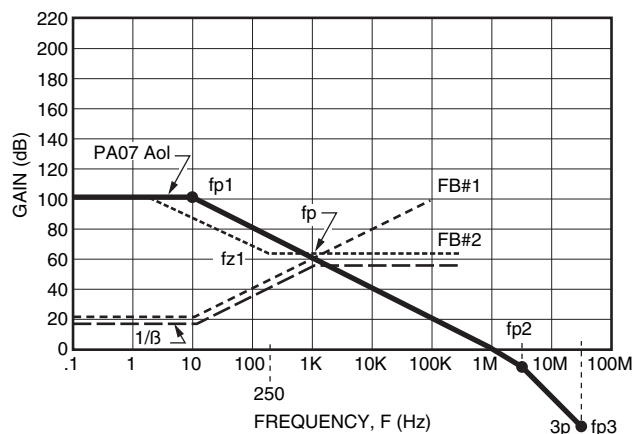
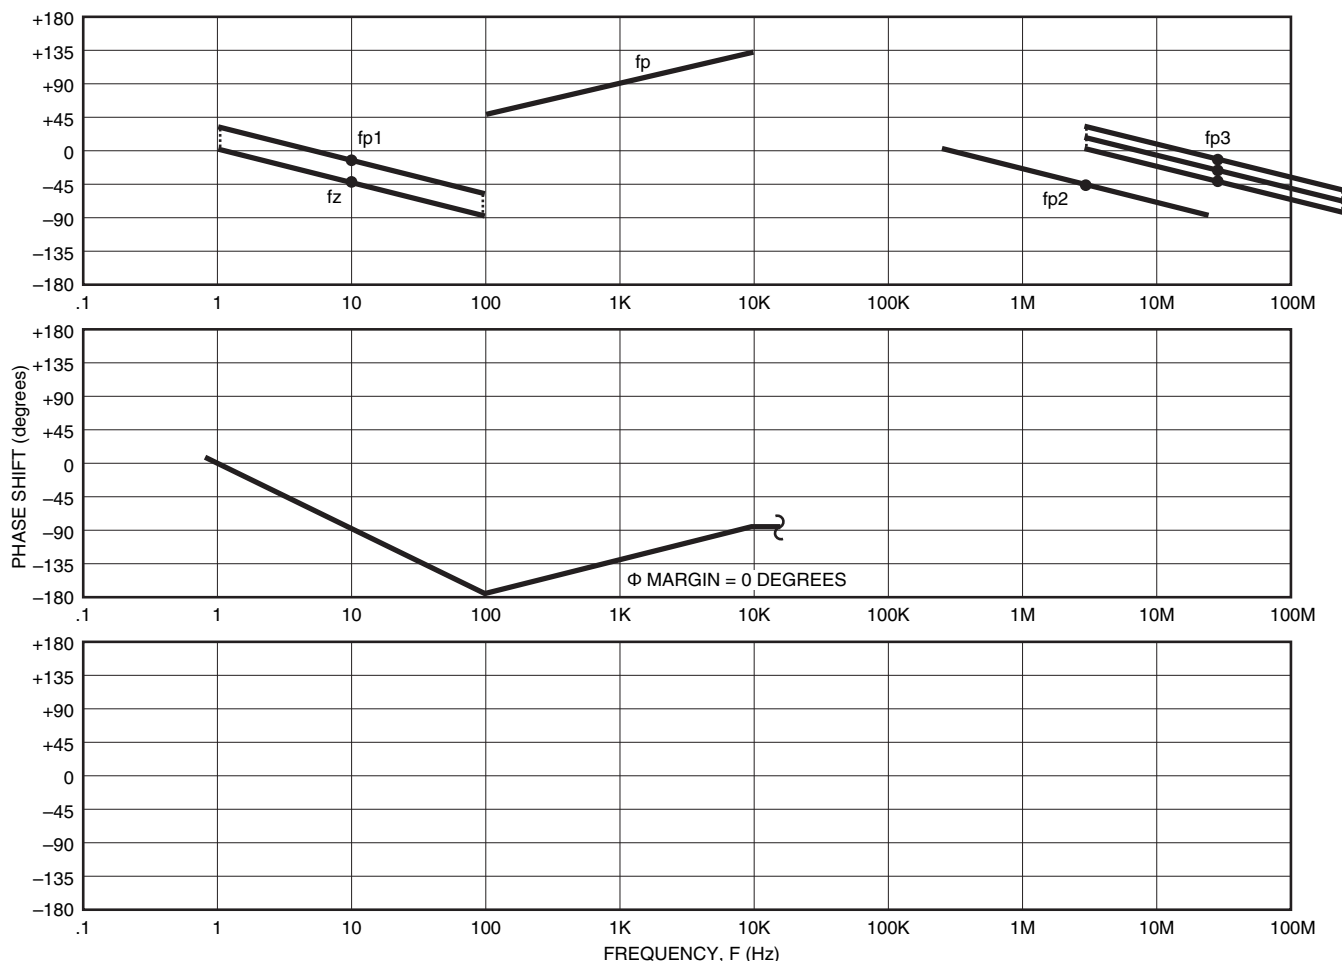

FIGURE 19. FIRST GUESS MAGNITUDE PLOT FOR STABILITY
FIGURE 20. FIRST GUESS OPEN LOOP PHASE PLOT FOR STABILITY
STEP 3: Refer to Figure 19 which repeats PA07 Aol and FB#1. We will add FB #2 to force the high frequency part of the 1/β curve to flatten out and intersect the PA07 Aol curve at 20 dB per decade. FB #2 will dominate at frequencies above 1 KHz. Although our V-I circuit has two feedback paths, the op amp will follow whichever feedback path is dominant. This means the larger β is, the more voltage is fed back from the output to the -input as negative feedback (Remember $\beta = V_{fb}/V_{OUT}$). With a larger β, 1/β will
STEP 4: In Figure 19 the long-dashed line represents the $1/\beta$ feedback path that the PA07 operates in for small signal AC. According to our first order check for stability we see a 20 dB per decade rate of closure indicating a stable design. But let's do our complete stability check by using the $1/\beta$ curve and PA07 Aol curve to plot the open loop phase plot. Remember the following rules when plotting open loop phase plots for stability checks.
Figure 20 is the resultant open loop phase plot using the information from Figure 19. After plotting individual open loop poles and zeroes, and drawing the appropriate slopes, we graphically add the slopes to yield a resultant open loop phase as shown in Figure 20. Notice fp3 in Figure 20 is a triple pole. It is easier to plot this as shown in Figure 20 as three poles “on top” of each other. This
makes it easier to add graphically for a resultant open loop phase plot. As shown in Figure 20, our open loop phase dips to -180 at 100Hz. Our first attempt at compensation was not successful since we desire at least 45 degrees of phase margin (open loop phase should not dip to less than -135 degrees).